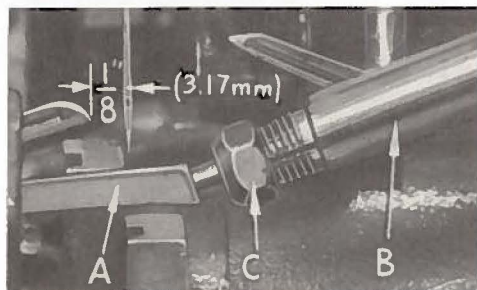

Fig. 6
Insert lower looper (A, Fig. 6) into bar (B). With lower looper at left end of its stroke, set looper point $1/8$ inch (3.17 mm) from center of needle (Fig. 6), using looper gauge No. 21225- $1/8$. Do not have lower looper deflecting needle. Tighten nut (C).